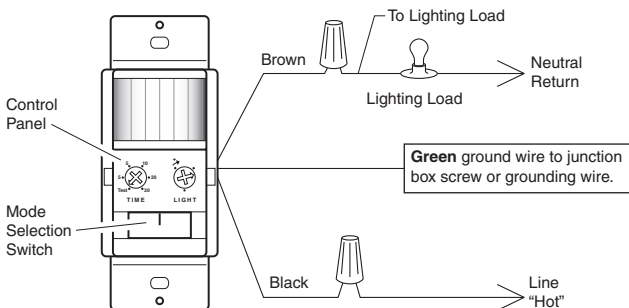

Figure 3 - Connecting Electrical Leads of Sensor
2. Connect electrical leads of sensor as shown in Figure 3. Before installing sensor into junction box, **make sure there is no wire exposed at each connection.**